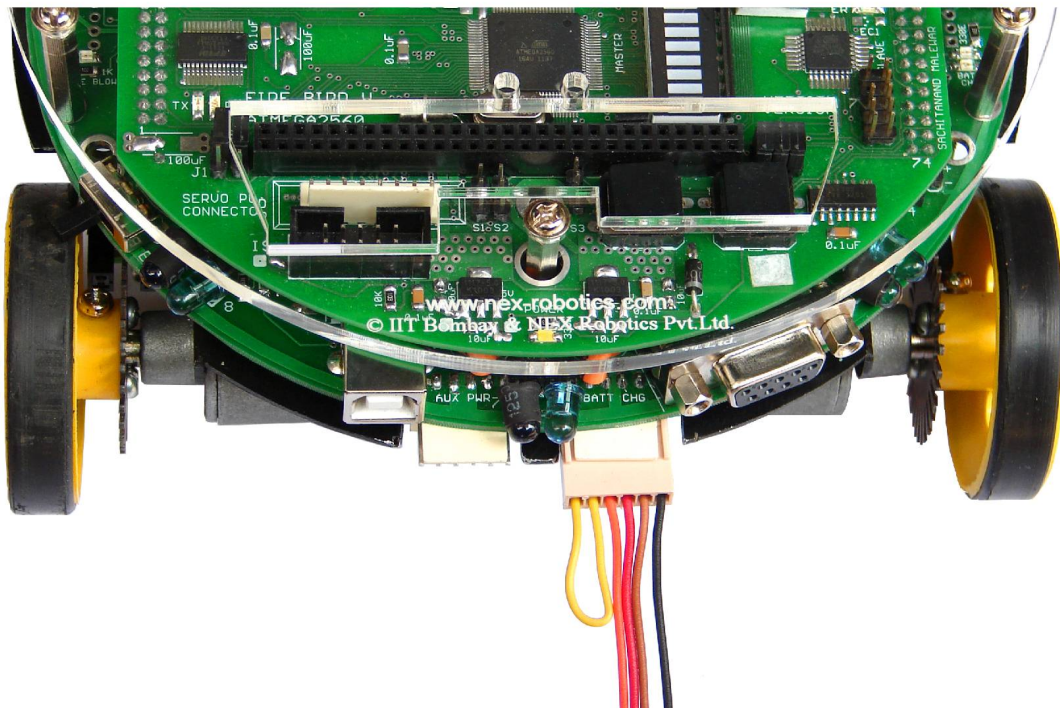

Figure 3.13: Connection for battery charging
2. Connect AC adapter in the mains. Connect the 6pin 2510 relimate battery charging connector to the main board in the battery charge socket as shown in figure 3.13.